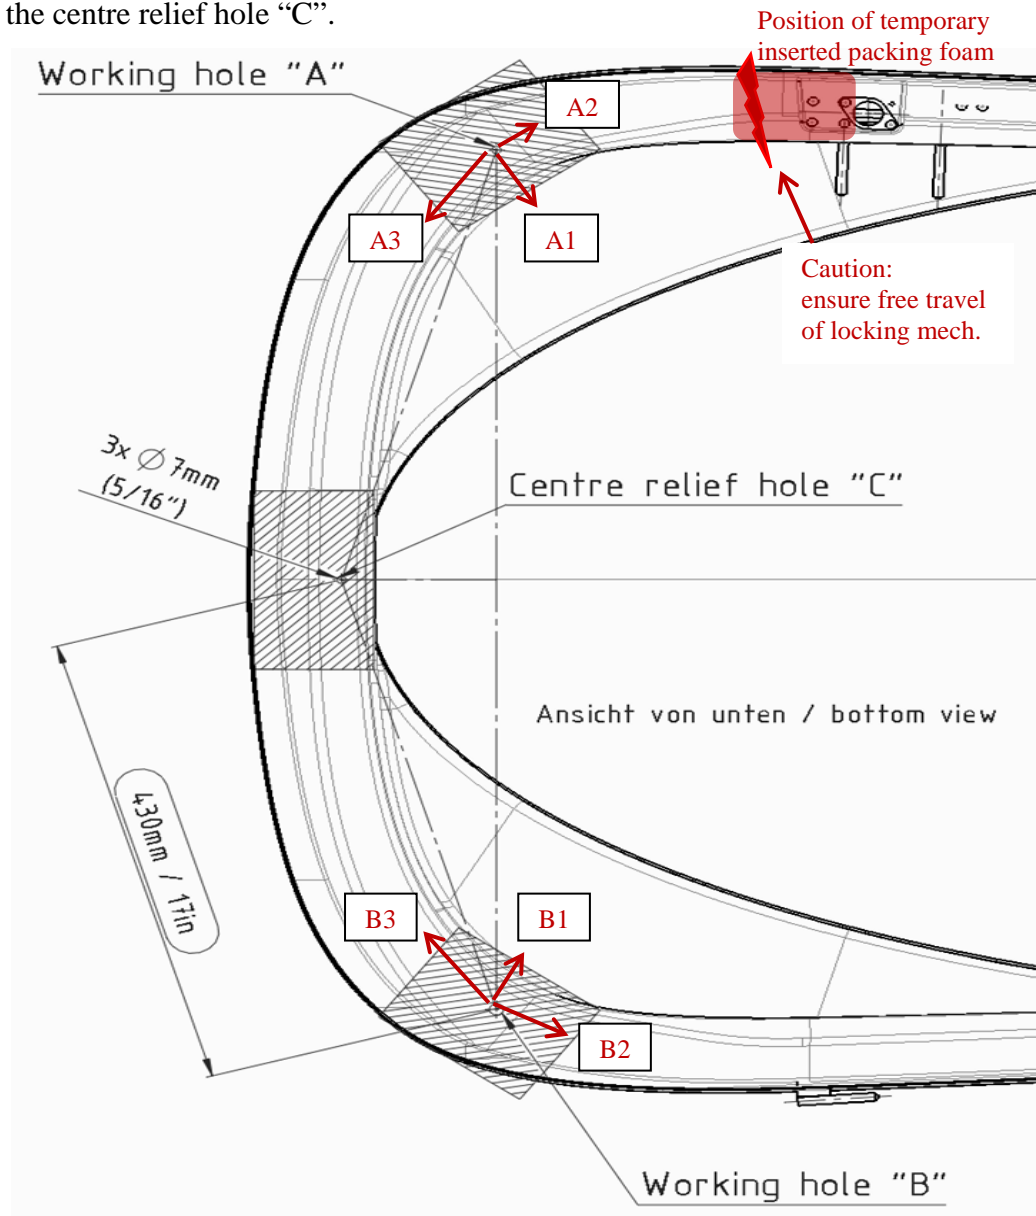

Figure 1 Canopy – bottom view
5. Carefully drill 3 holes with \varnothing 7mm / 5/16in into the inner frame of the canopy as per Figure 1 below. Clean area around drill holes with vacuum cleaner.
6. Thoroughly protect the area around the three holes with tape (see shaded area in Figure 1).
9. Insert tube approximately 100mm / 4in into working hole "A" (locking side, see Figure 1) directed towards the slightly curved area (direction A1, inwards). Apply 1 short push on the trigger.
- a. Insert tube approximately 100mm / 4in into working hole “B” (hinge side, see Figure 1) directed towards the slightly curved area (direction B1, inwards). Apply 1 short push on the trigger.